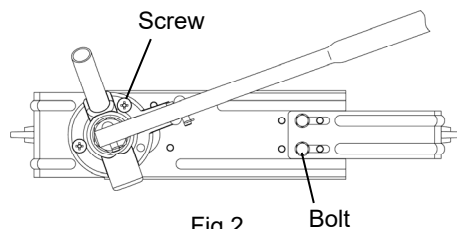

Fig.2
- 3) If the width of the bracket does not fit the pail, remove the two bolts from the bracket and adjust the position of the bracket. Also, if the pump does not fit the opening of the pail, adjust the position of the pump by removing the two screws. (Fig.2)